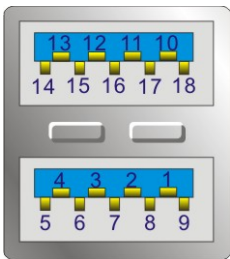

Figure 3-26: USB 3.0 Port Pinout Locations
- CN Pinouts: See Figure 3-26 and Table 3-25